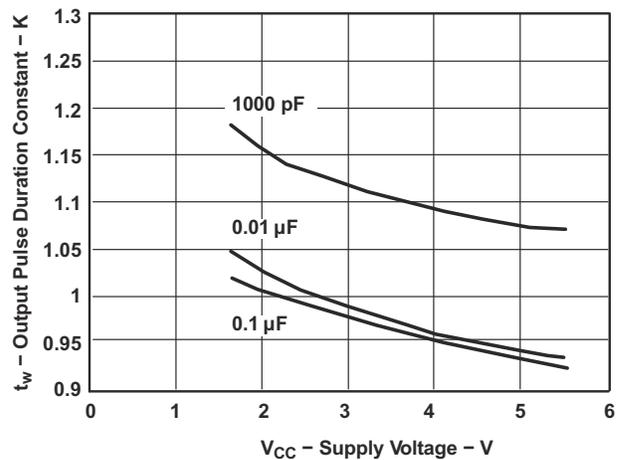

Figure 4-2. Output Pulse Duration Constant vs Supply Voltage
- The resistor value is calculated from the pulse length equation,  $t_w = K \times R \times C$ . By rearranging terms,  $R = t_w / (K \times C)$ . K is found in Figure 4-2 to be 0.925 for  $C = 0.1\ \mu\text{F}$  and  $V_{CC} = 5\text{ V}$ . Since the pulse width is a range from 1 ms to 25 ms, a range of R values will be given to match.  $10.8\ \text{k}\Omega < R < 270\ \text{k}\Omega$ . 100 k $\Omega$  is selected because it is already on our bill of materials from the pull-up resistor and will result in an output pulse of 9.25 ms.
- The resistor value is calculated from the pulse length equation,  $t_w = K \times R \times C$ . By rearranging terms,  $R = t_w / (K \times C)$ . K is found in Figure 4-2 to be 0.925 for  $C = 0.1 \mu\text{F}$  and  $V_{CC} = 5 \text{ V}$ . Since the pulse width is a range from 1 ms to 2 ms, a range of R values will be given to match.  $10.8 \text{ k}\Omega < R < 21.6 \text{ k}\Omega$ . 12 k $\Omega$  is selected because it is a standard 5% resistor value and yield a pulse length of 1.11 ms.